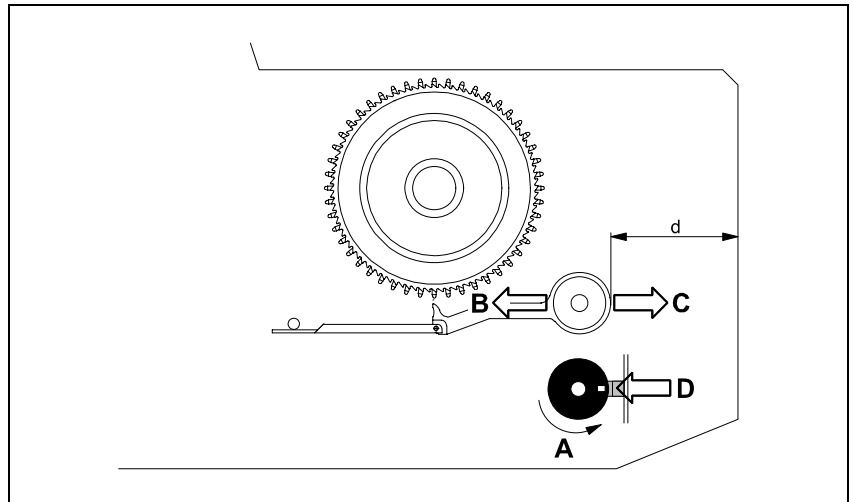

Figure 13-15. Setting the code disc.
2. Turn the multi-hole code disc by hand ('A' in Figure 13-15) until the eccentric shaft with the feeder arms are as far from the magazine front as possible (B), i.e. when the 'd' distance is maximum.
4. Continue turning the multi-hole code disc by hand until the eccentric shaft with the feeder arms are as close to the magazine front as possible (C), i.e. when the 'd' distance is minimum. 1.5